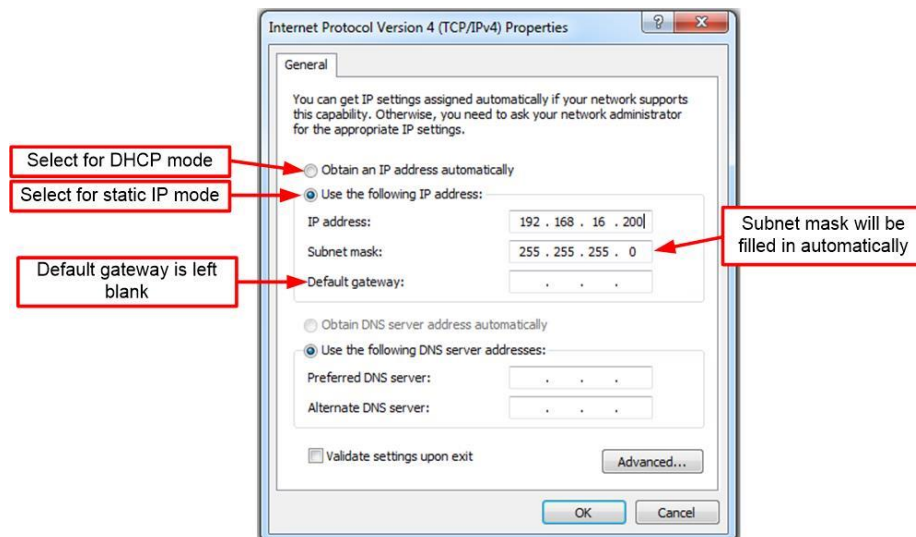

Figure 3-5 Windows Network Connections IPv4 properties page –Static IP
Step 7: To set the unit to a static IP address, select the "Use the following IP address:" option. Then enter the desired IP address in the designated field. A suggestion is to use the IP address 192.168.16.200 as shown below. Once the IP address is filled, the Subnet mask field will automatically populate. See Figure 3-5.